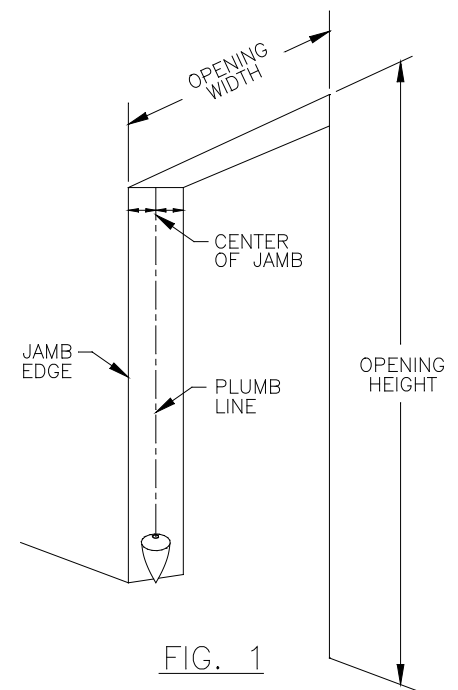

FIG. 1
- a. **Check door opening height and width** (Figure 1).